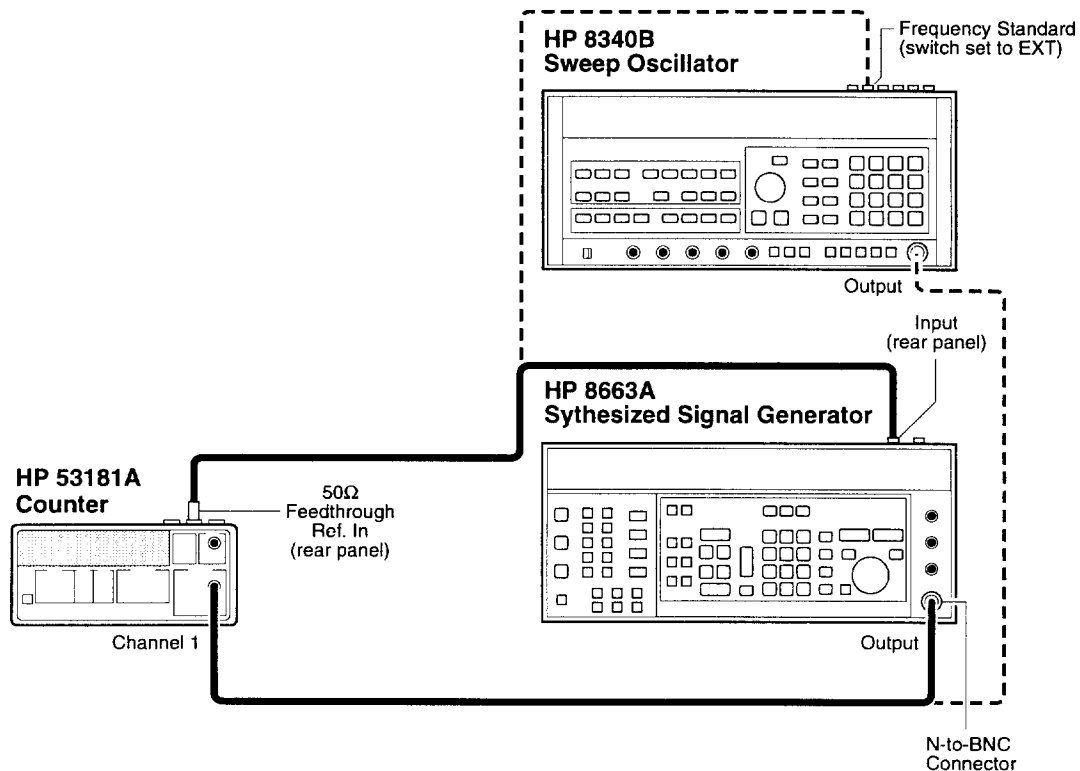

Figure 1-14. Channels 1 Frequency Accuracy Test Setup
- 1 **Connect the equipment as shown in Figure 1-14 with the signal generator connected to Channel 1 of the Counter.**